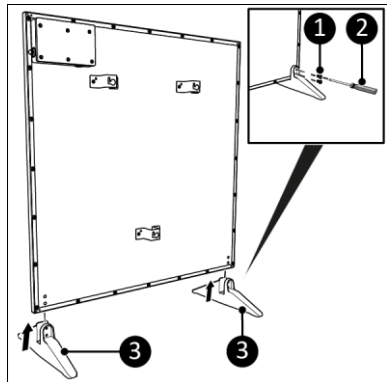

Figure 6
3. Place the pedestals (Figure 6, pos. 3) on both sides of the main body.
4. Screw and tighten each pedestal with two screws (Figure 6, pos. 1) using a Philips screwdriver (Figure 6, pos. 2).